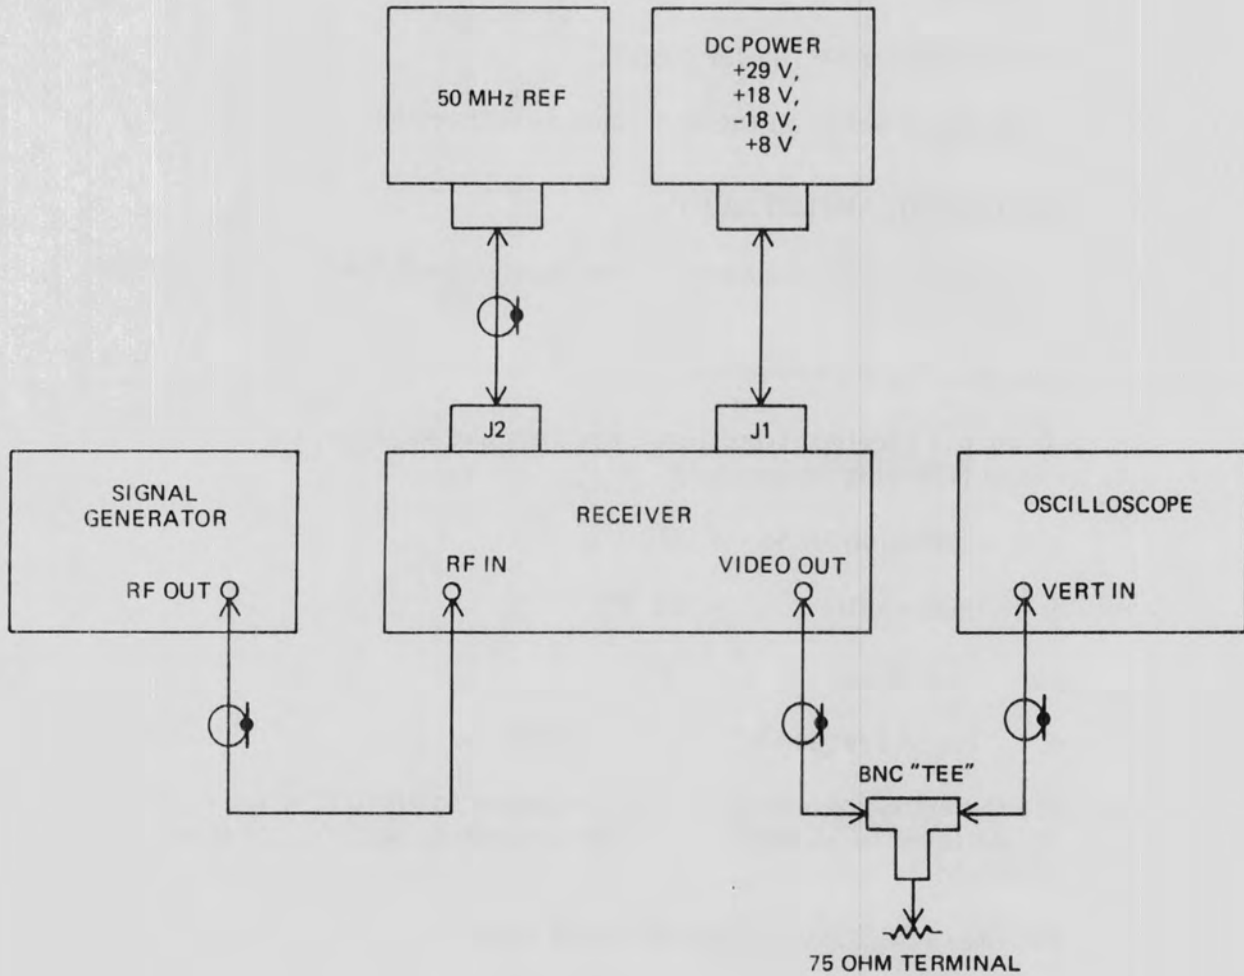

Figure 4-14. AM Video Level Adjustment Equipment Setup
1. Remove the IF Demodulator cover and connect the receiver as shown in **Figure 4-14**.